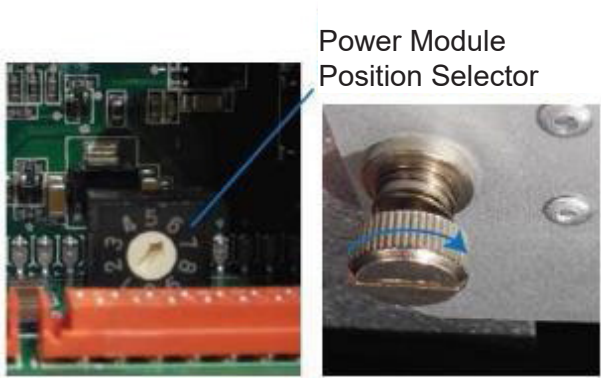

Figure 32 Power Module Position Selector
9.1.6.2. Using a small flathead screwdriver (ideally with a 0.4 mm x 2-mm tip and no bigger than 0. 7 mm x 3 mm), adjust the power module position selector (Figure 32) to match the power module position (Figure 33).